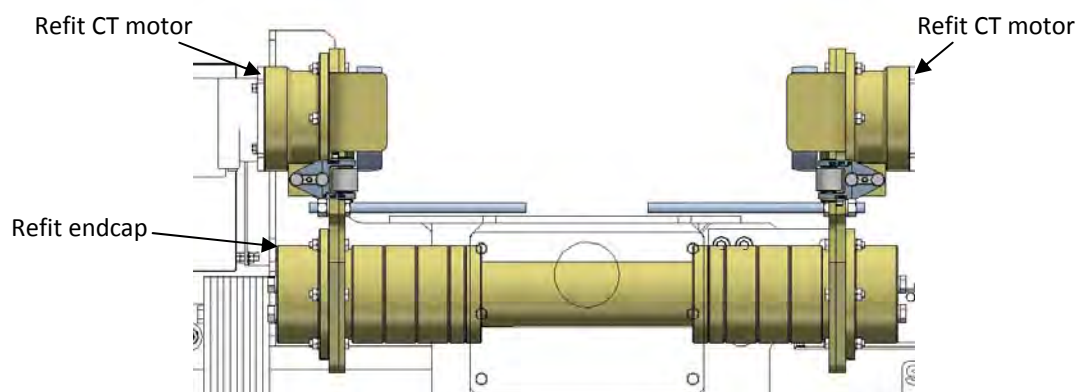

Figure 25 – Endcap refitted
- Ensure the safety bars (see Figure 25) are in contact with the top of the beam and release.
It is very important that the positions of the trolley plate assemblies and spacers are mirrored exactly, ensuring the beam is central, see Figure 25.
- Refit the Endcap 'Electrical Panel Side', fit and tighten M16 Hex Screws (3) to 20 Nm. Refit the CT motors, and tighten M8 Flanged Hex screws (4) to 24Nm, see Figure 25.